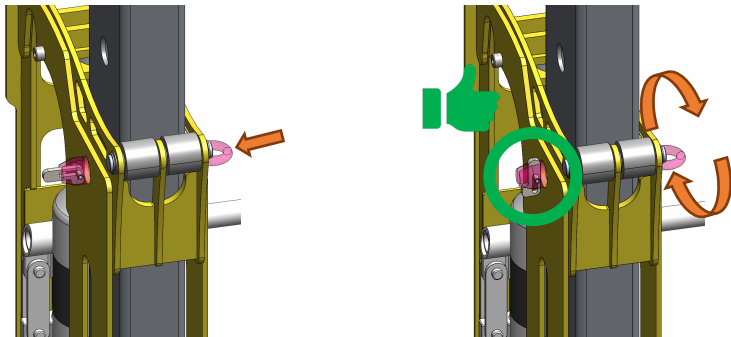

Figure 5 Fastening the locking pin.
4. Insert locking pin through the climber unit and tube, see **Figure 5 & 6** for reference